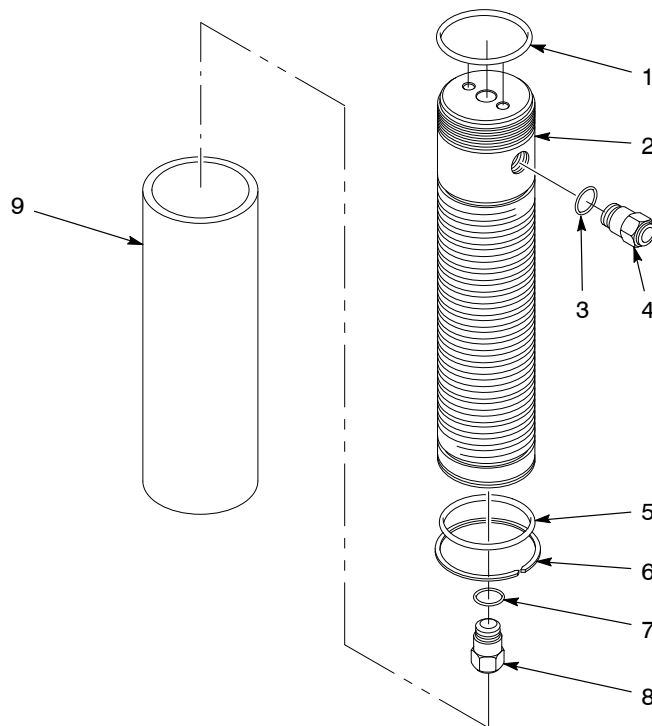

Figure 9 Heater Reservoir Replacement
4. See Figure 9. Disconnect the fluid inlet (8) and fluid outlet fittings (4). Remove the O-rings (3, 7) from the fittings and discard them.
See Figure 9.
3. See Figure 9. Install new O-rings on the fluid inlet (8) and outlet fittings (4).